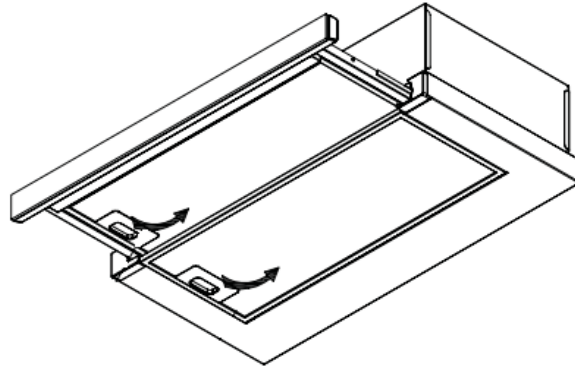

Fig. 17
- Disassemble the aluminum grease filter (Fig. 17),
- Install the aluminum grease filter (Fig. 17).